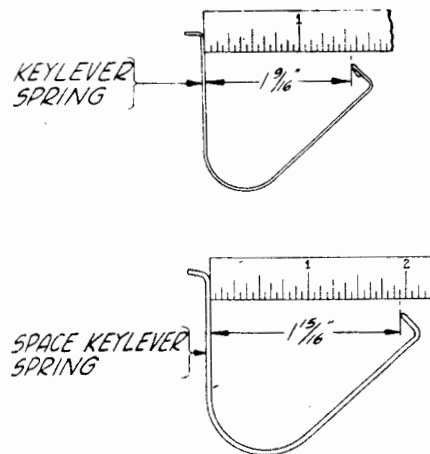

Figure 4
2.10 Keylever Spring: The openings between the ends of all keylever springs except the SPACE keylever spring should be 1-9/16 inch. The opening between the ends of the space keylever should be 1-15/16 inch. See Figure 4.